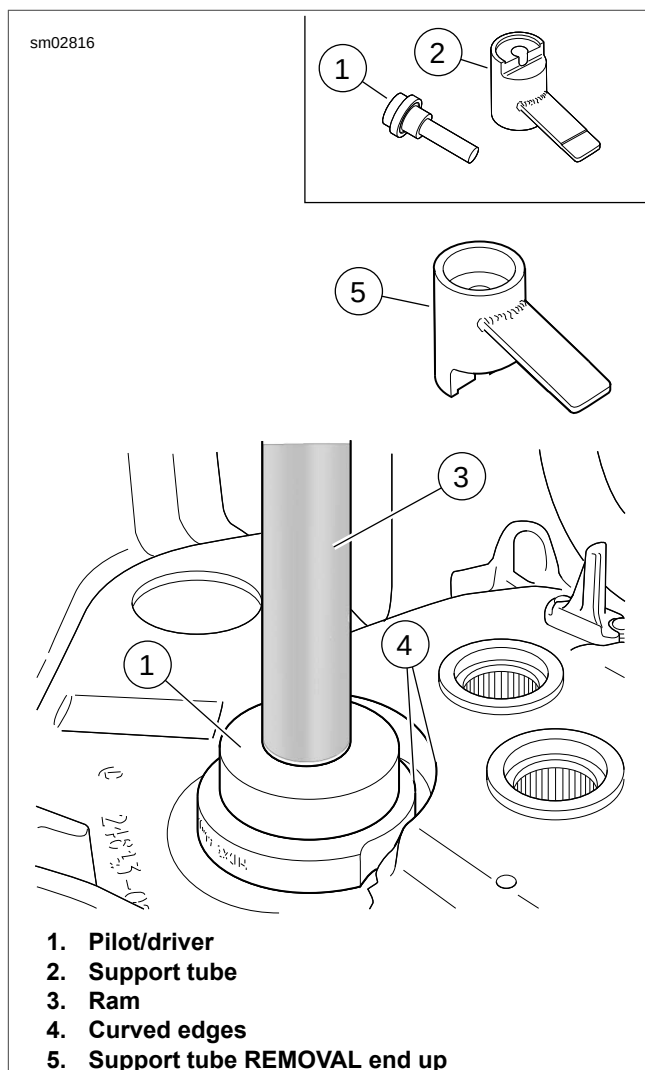

Figure 3-132. Right Main Bearing Removal
2. See Figure 3-132. Obtain CRANKSHAFT (ROLLER) BEARING REMOVAL/INSTALL PILOT/DRIVER (Part No. HD-44065-1) and CRANKSHAFT (ROLLER) BEARING REMOVAL/INSTALL SUPPORT TUBE (Part No. HD-44065-4).
3. Place support tube (2) on press table with the REMOVAL end up. Note that the support tube is stamped to provide proper orientation.
4. With the cam compartment facing downward, position crankshaft bearing bore over support tube. Verify the curved edges on pilot/driver (1) match the curved edges of crankcase (4) or damage will result.
5. Slide pilot/driver (1) through bearing into support tube.
6. Center pilot/driver under ram (3) of press. Apply pressure to pilot/driver until bearing is free.